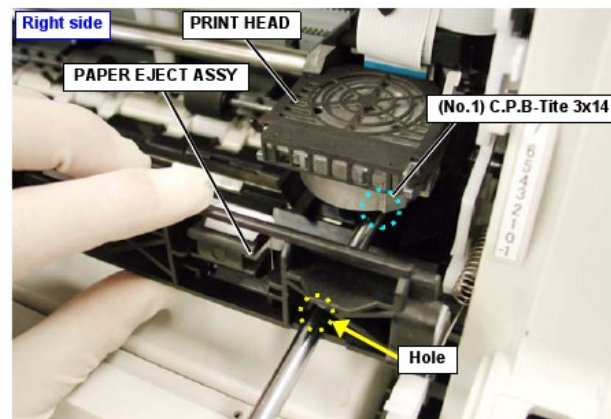

Figure 4-7. Holding the PAPER EJECT ASSY
4. Raise the PAPER EJECT ASSY a little upwards and hold it. (Refer to Figure 4-7.)
5. Fit a screwdriver through the hole in the right end of the PAPER EJECT ASSY and remove the screw (No.1) C.P.B-Tite 3x14 (0.58-0.78Nm) securing the PRINT HEAD to the CARRIAGE ASSY. (Refer to Figure 4-7.)